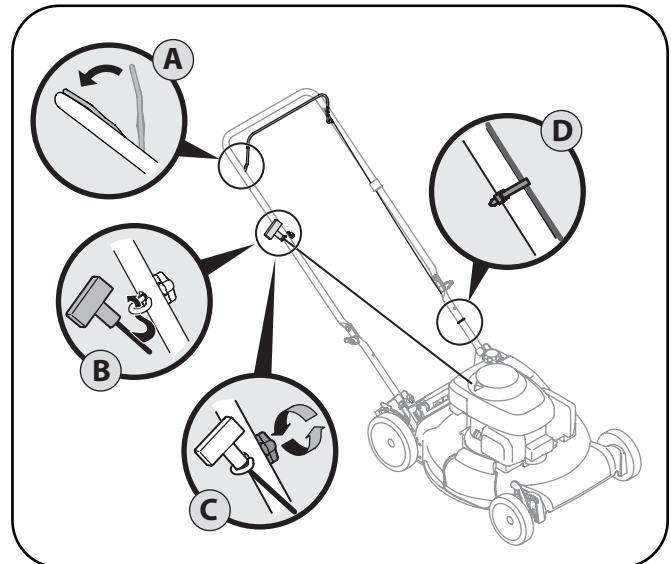

Figure 3-6
4. The rope guide is attached to the right side of the upper handle. Loosen the wing knob which secures the rope guide. See Fig. 3-6.
- b. Slowly pull starter rope handle from engine and slip starter rope into the rope guide. See Fig. 3-6.